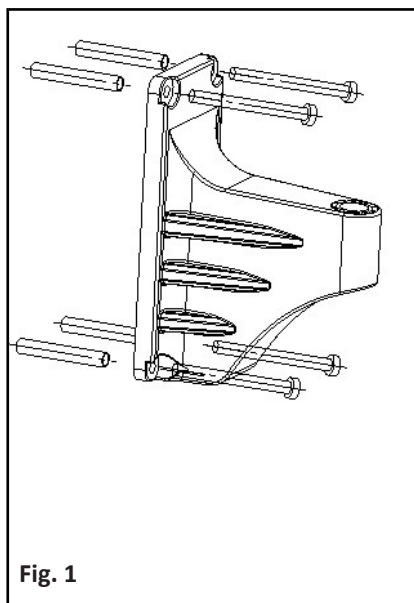

Fig. 1
4. Fix the bracket by four self-tapping screws accordingly (Fig.1).